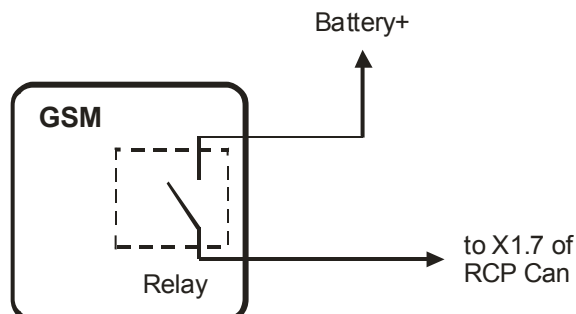

Figure 9
- Some GSM modules can control additional device by the means of embedded relay. These may be connected to the RCP by the scheme at the fig.9